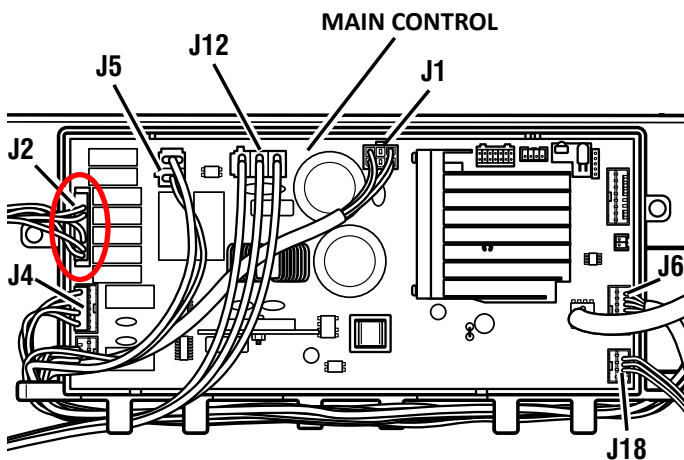

Figure 1
5. Disconnect the Water Inlet Valve connector "J2" from the Main Control (see Figure 1).